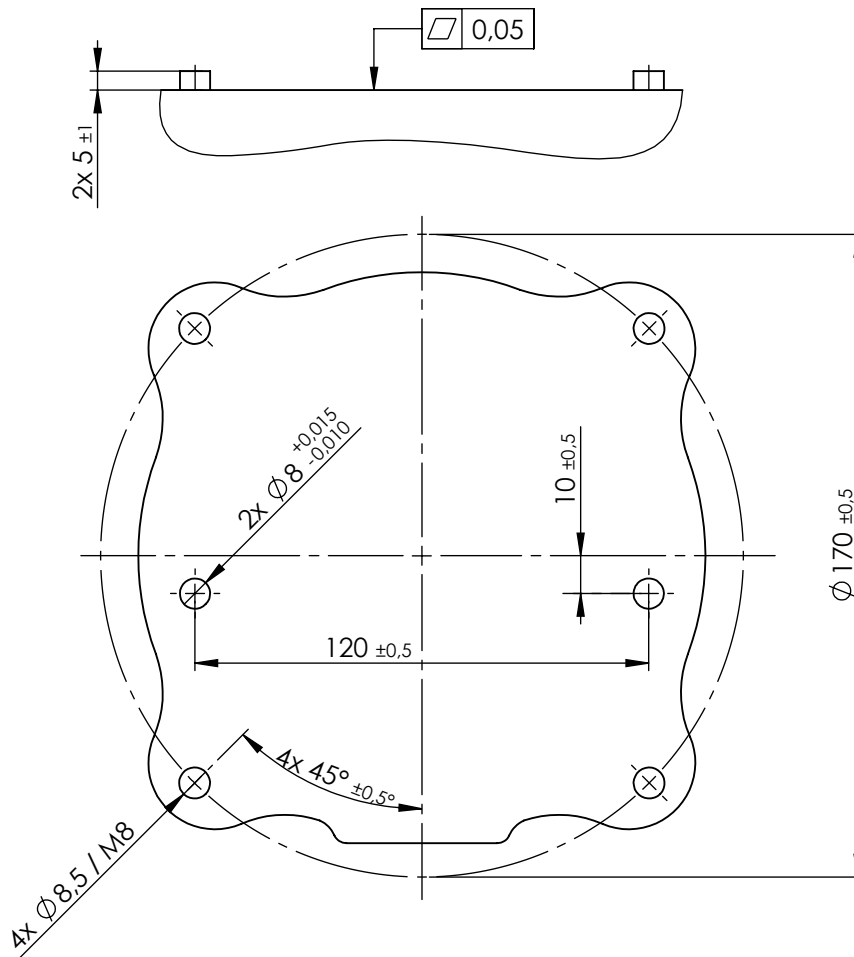

Figure 4.1: Holes for mounting the robot. Use four M8 bolts. All measurements are in mm.
**Robot Arm** The robot arm is mounted using four M8 bolts, using the four 8.5 mm holes on the base. It is recommended to tighten these bolts with 20 N m torque. If very accurate repositioning of the robot arm is desired, two  $\varnothing 8$  holes are provided for use with a pin. Also, an accurate base counterpart can be purchased as an accessory. Figure 4.1 shows where to drill holes and mount the screws.